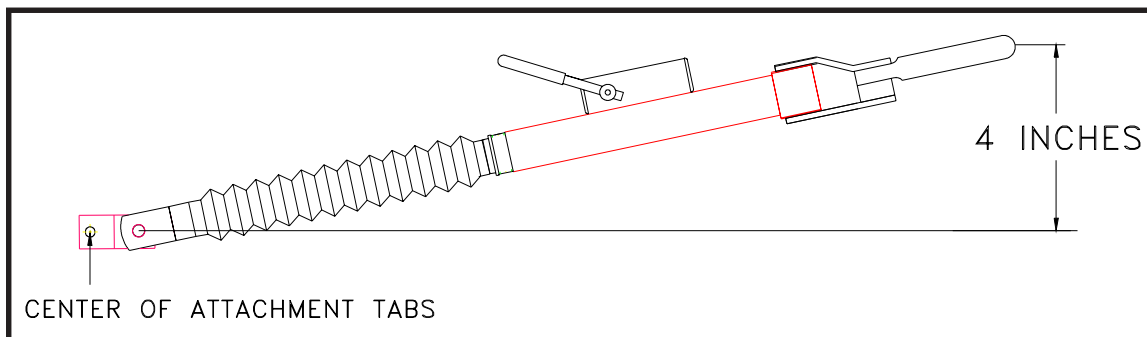

Figure 5
8. Blue Ox tow bars are designed for the pintel ring to be **parallel to the ground** when towing. The height difference from the center of the attachment tabs to the center of the pintel hitch on the towing vehicle should be approximately 4 inches (*Figure 5*). **If the Pintel tow bar is at too much of an angle, damage or accident could occur.**